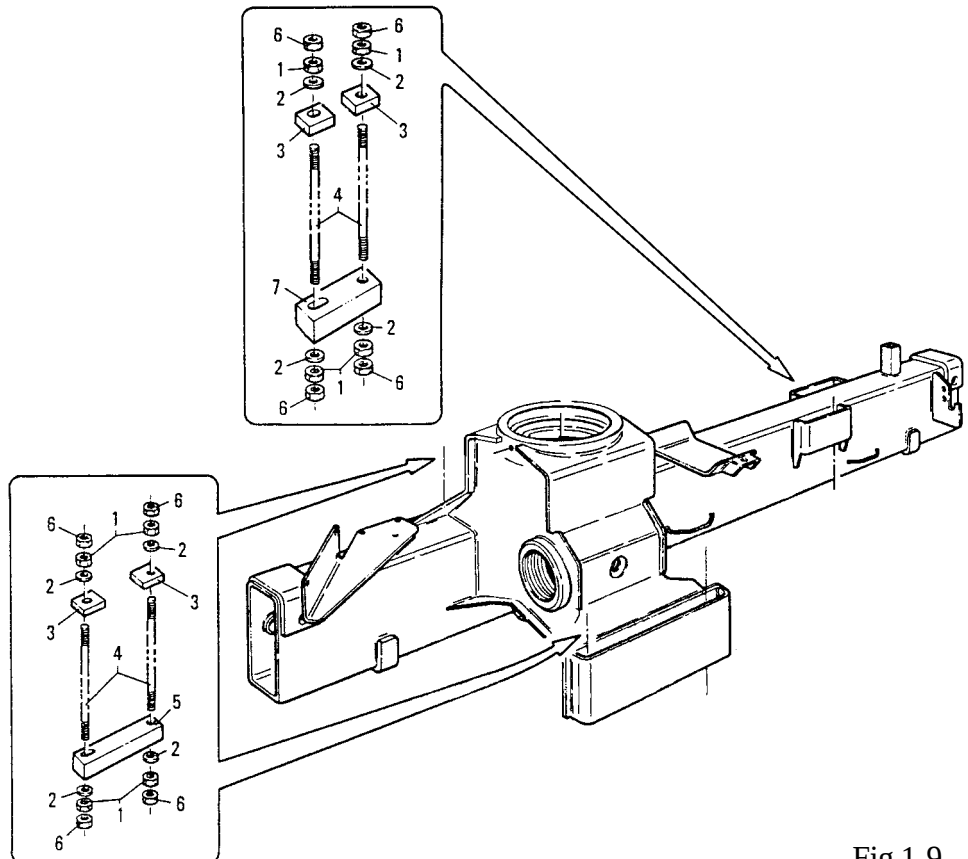

Fig.1-9
1.8.1 DATI TECNICI ANCORAGGIO DI NOSTRA FORNITURA PER GRU SERIE 2 (Fig. 1-9)
1.8.1 TECHNICAL DATA ABOUT ANCHORAGE SUPPLIED FOR CRANE SERIE 2 (Fig. 1-9)